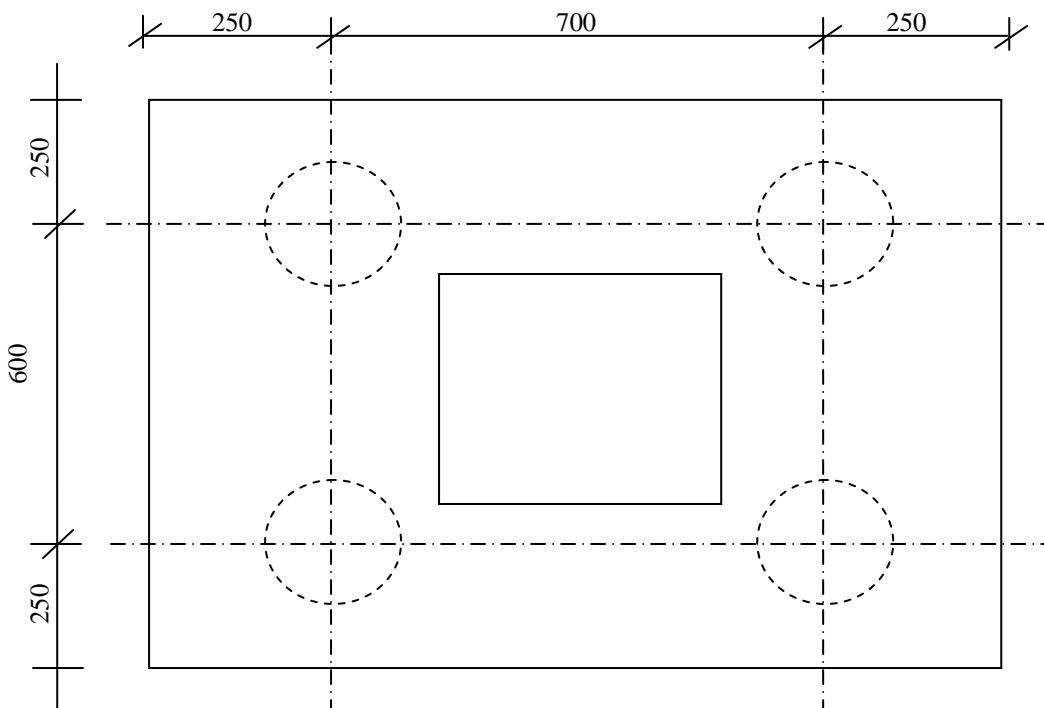

Figure 1 (All dimension in mm)
- b) A pile cap with **FOUR (4)** pile group arrangement is shown in Figure 1. Design and provide relevant detailing based on the following requirements :-